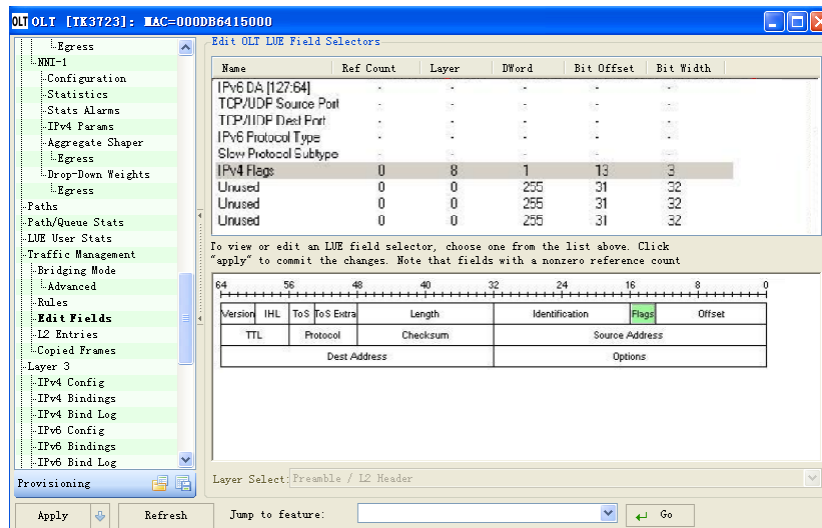

Figure 8-4 Flags Selector
- 4) In the chart, for example, select the Flags field and drag it from one side to the other side with a cursor in the Flags box to display a selector with high brightness which matches with the items selected in the drop-down box of Layer Select. The selector shall be one which doesn't match with any item of the previous filed selectors shown in the Figure 8-4;